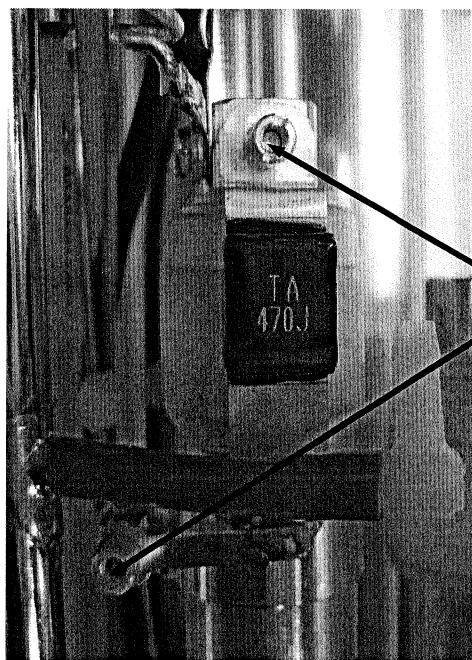

Fig. 1: shunt a capacitor (47pF)
5. To operate ^{15}N in double resonance mode you have to shunt a capacitor of 47 pF (provided) to the X-Tuning-Capacitor (Fig.1). Additionally, set the short circuit clamp to "Low-range".